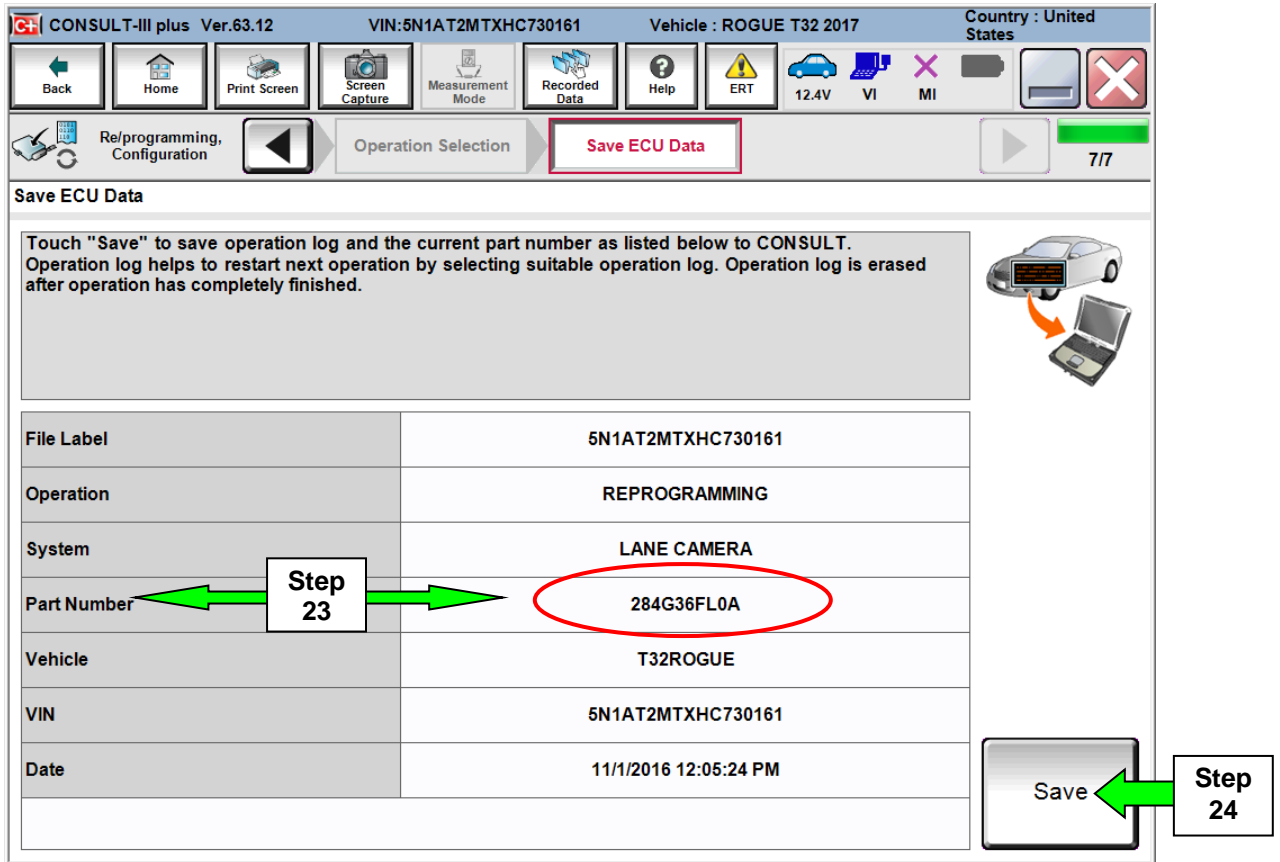

Figure 11
23. Find the **LANE CAMERA Part Number** (see Figure 11) and write it on the repair order.